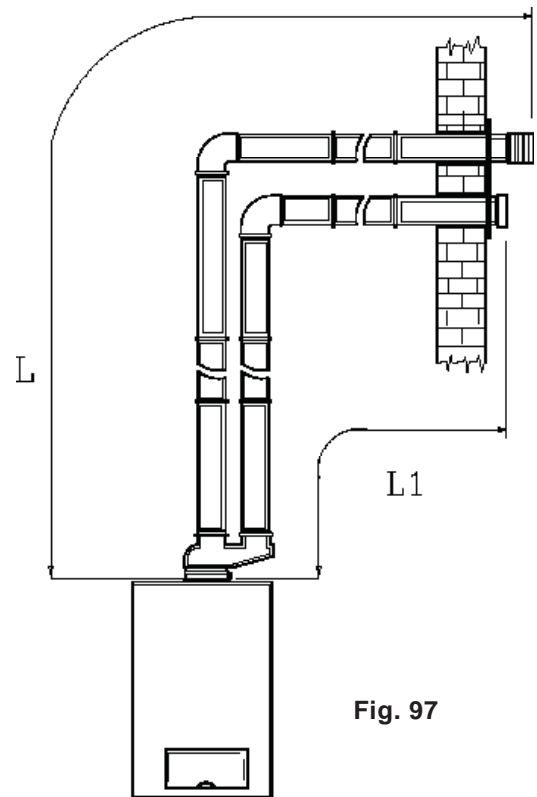

Fig. 97
11.1.4 Exhaust/suction system with two separate pipes through a single vertical wall (Fig.97).